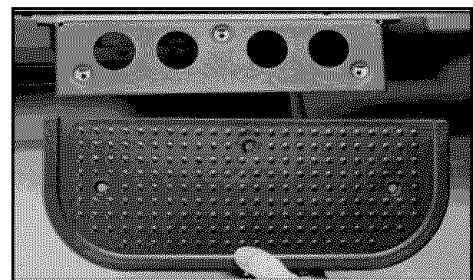

Figure 15-1
15-1 Using the 5/16" hex key mount the side foot support platforms to each treadle with three (3) 1/4" x 1" flat head screws (3 per side—see Figure 15-1 & 15-2).